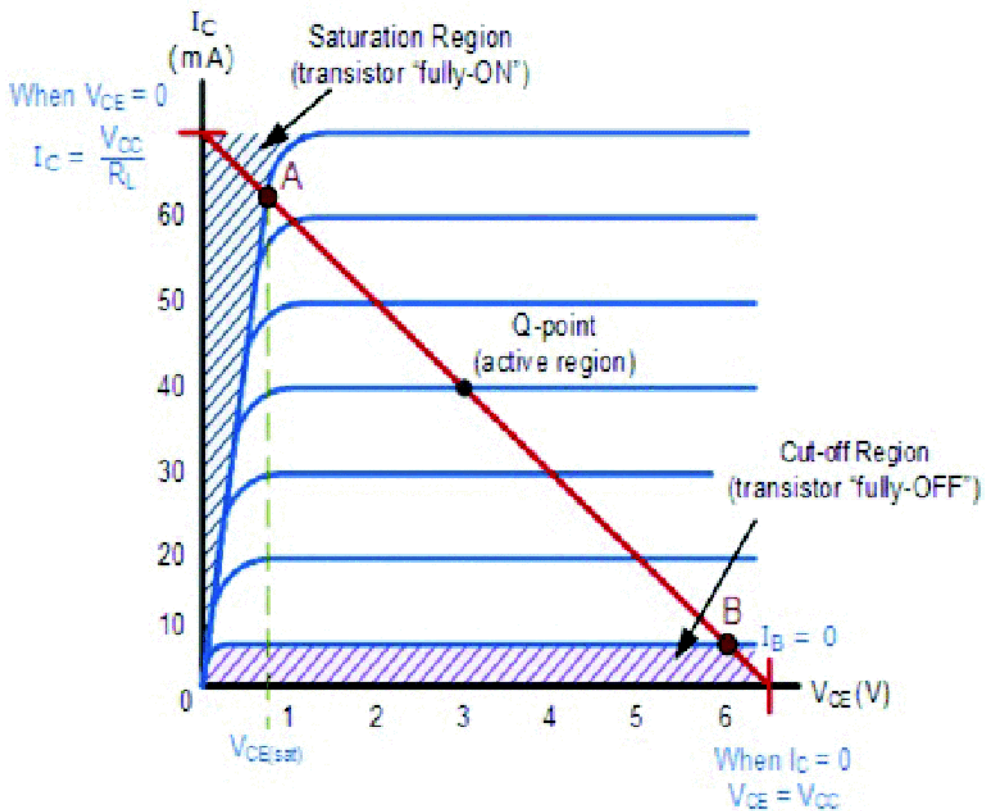

Fig.5.15 Operating Region
A transistor acts as a switch by driving it back and forth between its cut-off (OFF) and saturation (ON) regions. The operating region is shown in Fig 5.15.